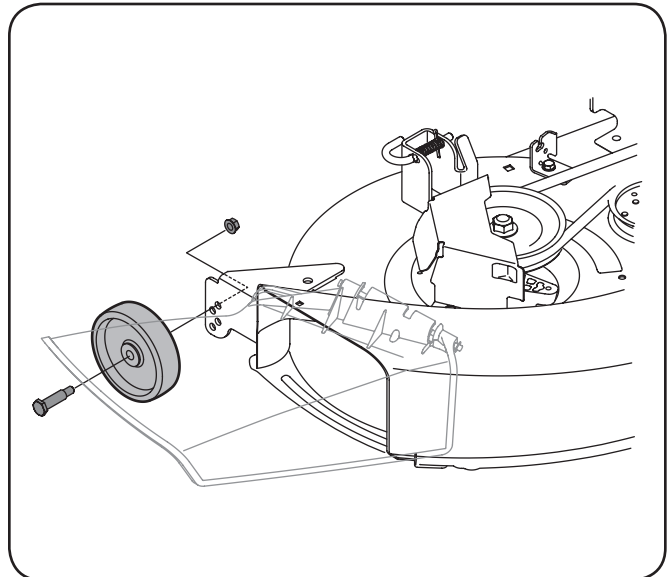

Figure 3-9
- b. Remove the gauge wheels by removing the lock nuts and shoulder screws which secure them to the deck. See Fig. 3-9